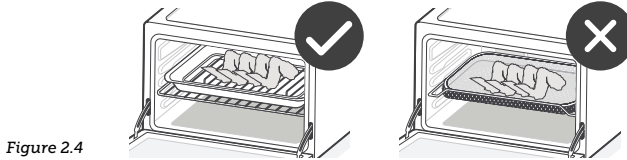

Figure 2.4
- **Do not** use the fry basket accessory to cook fatty foods. (Figure 2.4)